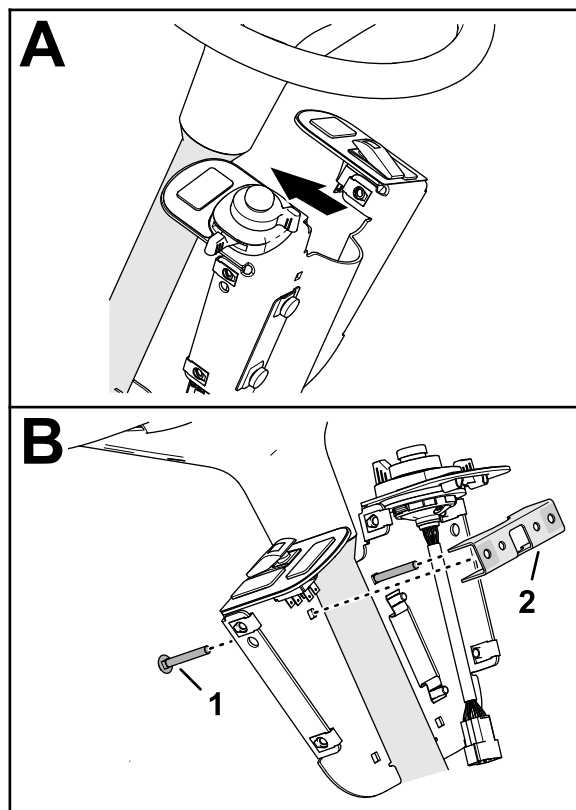

Figure 32
- At the upper 6.4 mm (1/4 inch) holes, assemble 2 carriage bolts (1/4 x 2 inches) through the switch plate and the other bracket mount (Figure 32).